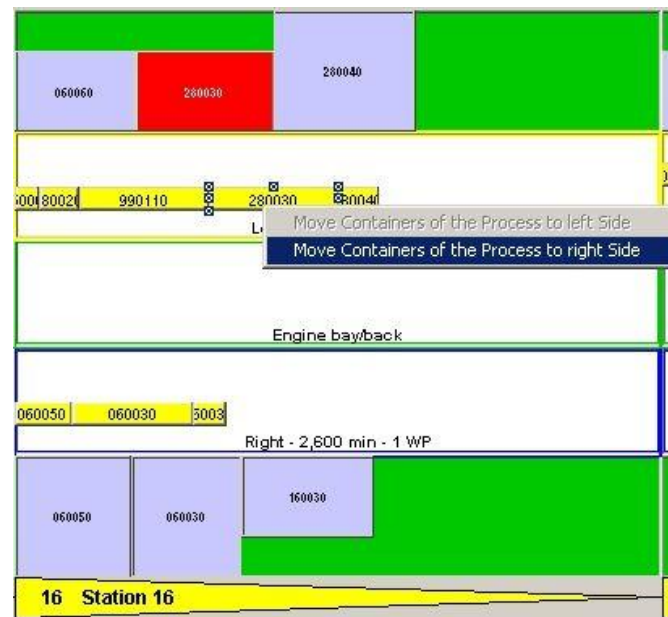

Figure 280: Open Process Context Menu
- 2) Click one of the two possible entries. *Please refer to the Figure 280.*